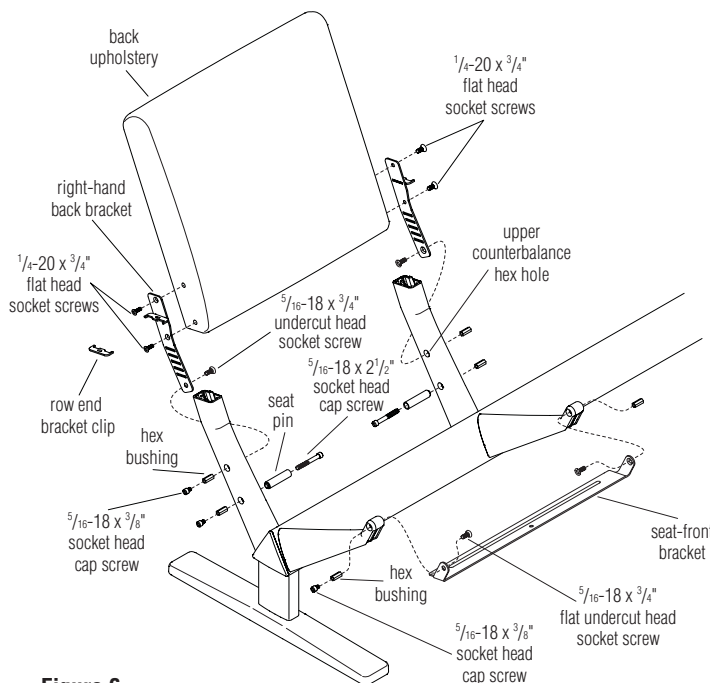

Figure 6
1. Insert and center the hex bushings in two counterbored hex holes in the rear arm and one counterbored hex hole in the front arm. Repeat the above for all front and rear arms along the beam (Figure 6).
sure that the cap screw head faces outboard of unit. Tighten to secure (Figure 6).
3. Slide the  $\frac{5}{16}$ -18 x  $2\frac{1}{2}$ " socket head cap screw into the counterbored end of the seat pin. Insert the pilot end of the seat pin into the lower counterbored hex hole on the rear arm casting until the seat pin face and the casting surface mate. Carefully thread the cap screw into the hex bushing and tighten. Repeat direction 3 for each pair of rear arm castings along the seating unit (Figure 6).
4. Align the two countersunk holes in the right-hand back bracket with the two holes in the right-hand side of the back upholstery as illustrated. Insert two  $\frac{1}{4}$ -20 x  $\frac{3}{4}$ " flat head socket screws through the back bracket and carefully into the back upholstery. Tighten to secure. Repeat direction 4 for the left side (Figure 6).
5. Lower the back upholstery at a 15 degree angle, allowing the d-shaped holes in the back brackets to slip over the d-shaped tabs on the top of the rear arm castings. Pivot the back upholstery until the countersunk holes at the bottom of the side brackets align with the upper set of counterbored hex holes in the rear arms. Insert a  $\frac{5}{16}$ -18 x  $\frac{3}{4}$ " flat undercut head socket screw through each bracket and into the hex bushing in the rear arm castings. Carefully tighten to secure (Figure 6).
6. Rear arm castings at the end of each row will require row end bracket clips. Place the bracket clip onto the top of the rear arm casting, aligning the d-shaped hole in the clip with the d-shaped tab on the arm casting (Figure 6).
7. Align the countersunk holes in the seat-front bracket with the counterbored hex holes in the front arm casting. Insert a  $\frac{5}{16}$ -18 x  $\frac{3}{4}$ " flat undercut head socket screw through the bracket at each end. Carefully thread the screw into the hex bushing and tighten (Figure 6).